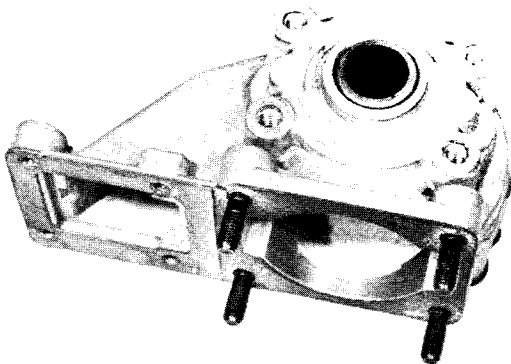

Fig. 40 — Seal Installed in Crankcase
3. Install seal in crankcase with lip inward and flush with housing, Fig. 40.